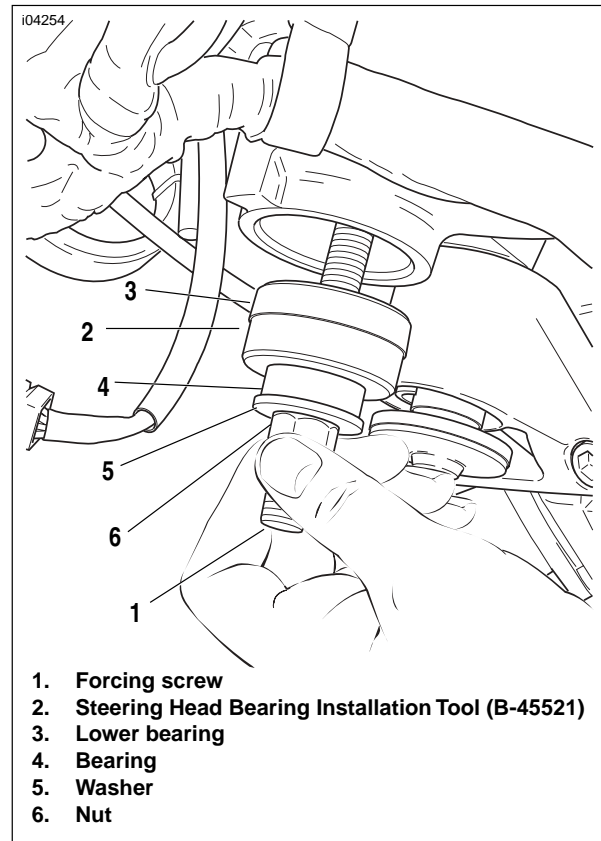

Figure 2-81. Lower Bearing
2. See **Figure 2-81**. Sparingly apply EXTREME PRESSURE LUBRICANT (Part No. J-23444-A) to the threads of the forcing screw (1) from the STEERING HEAD BEARING RACE INSTALLER (Part No. HD-39302), to prolong service life and ensure smooth operation. Insert the forcing screw (1) through the STEERING HEAD BEARING INSTALLATION TOOL (Part No. B-45521) (2).
4. Install the bearing (4), washer (5) and nut (6) from the STEERING HEAD BEARING RACE INSTALLER (Part No. HD-39302) onto the forcing screw (1).
5. Tighten the nut (6) by hand, until the bearing is started into the bore in the steering head.